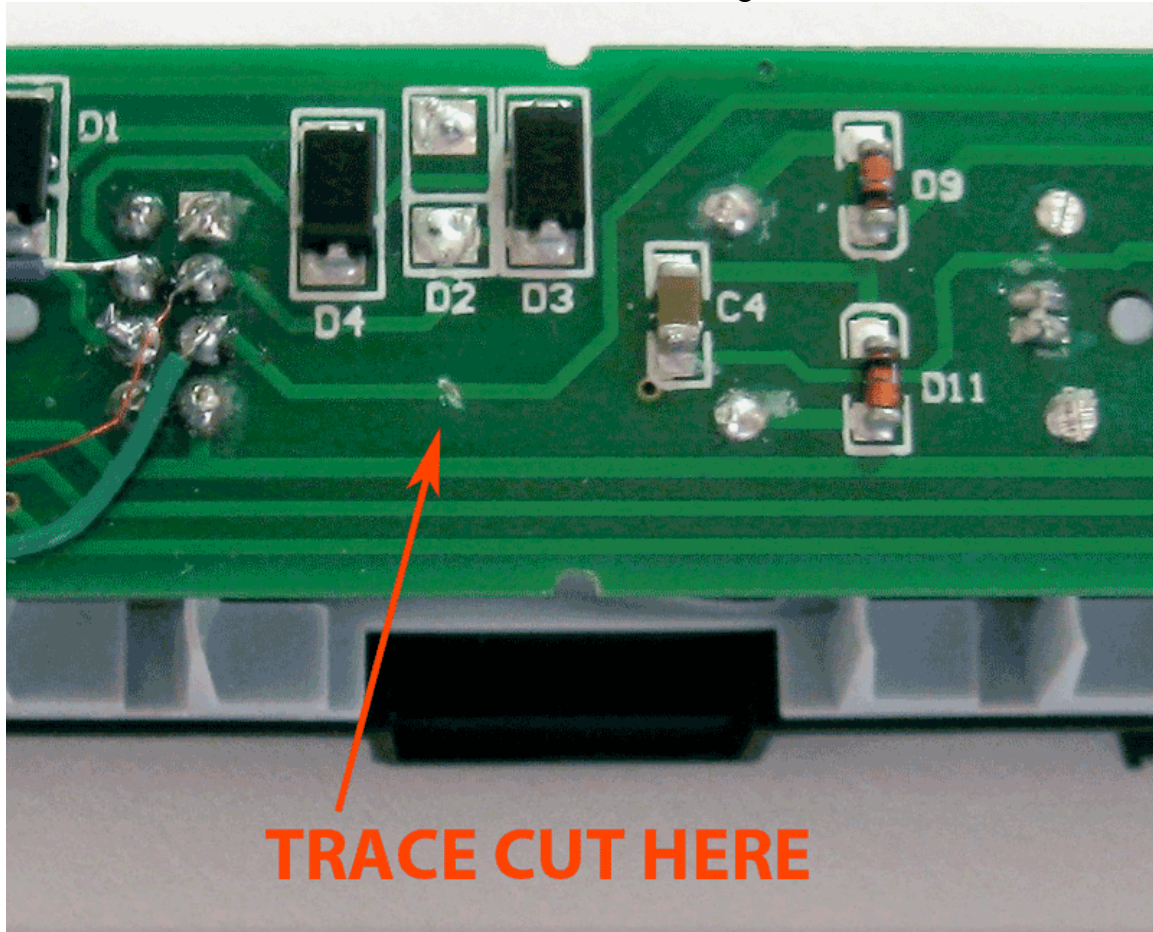

Figure 6 – Indicating where the trace for the unneeded next car light was cut.
6. Con-Cor wires a red LED for the Next Car light to Pin 3 of the NMRA plug. *(Only Brooklyn and Boston 3001 actually had them so it is unneeded on all other cars.)* Since we are connecting the interior body lights to Pin 3 we also need to cut the circuit board trace between Pin 3 and the Next Car LED to keep the Next Car LED from coming on when the interior lights are turned on. This trace can be cut just opposite where D2 was removed. If you are modeling a prototype with the Next Car light and want to keep Pin 3 connected to the Next Car LED the purple wire of the decoder can be hardwired to the D8 pad in place of the green wire jumper from Pin 3 of the NMRA socket. Figure 6 shows where the trace was cut to eliminate the next car light.